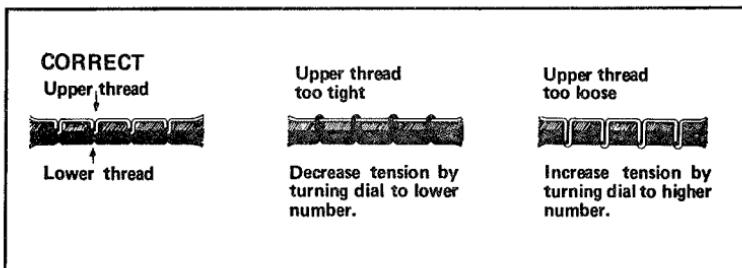

Fig. 2-23. This drawing from the Brother Model B801 operator's manual presents an inside view of what occurs in stitch interlocking.
- The point of interlocking of the top and bottom stitches appearing on either the bottom or top of the material (Fig. 2-23), rather than being virtually invisible between the fabrics.